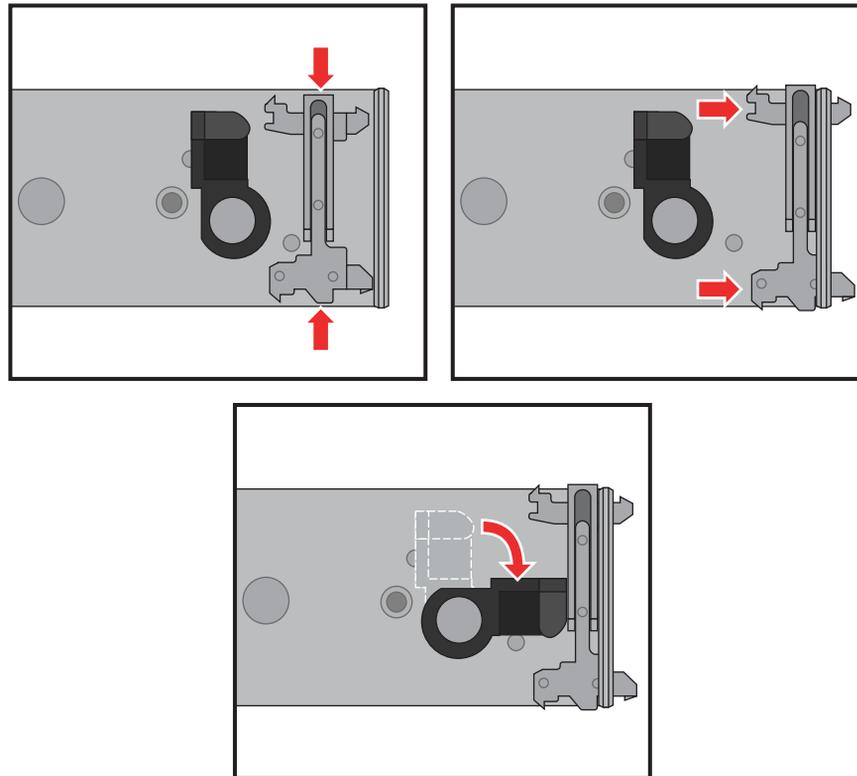

Figure 1-15 Reversing the Rail Pin Adapter
2. Squeeze the adapter’s pins together and extract it from the end of the rail, see Figure 1-15 on page 17.